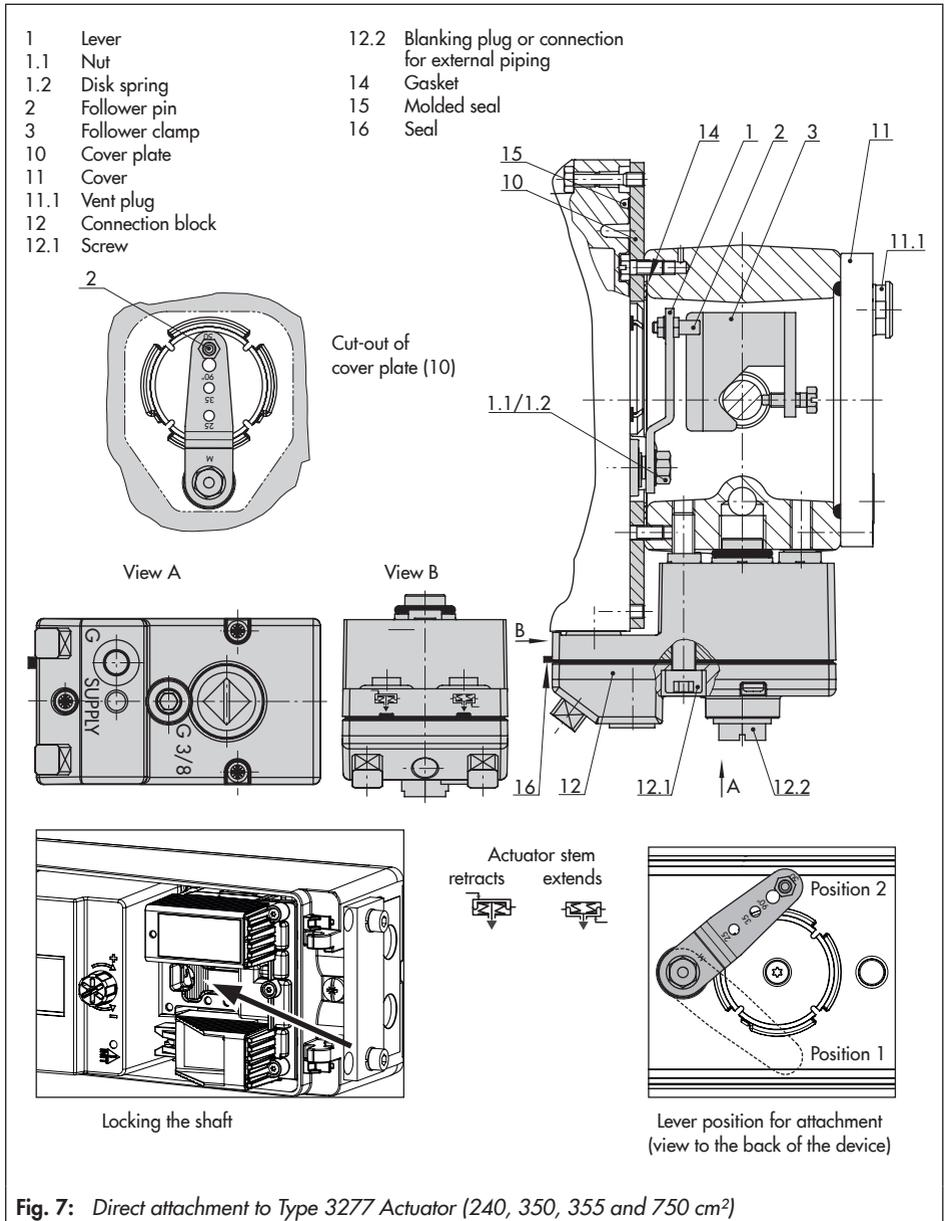

Fig. 7: Direct attachment to Type 3277 Actuator (240, 350, 355 and 750 cm²)
→ Actuators with 240 to 750 cm² (Fig. 7)
1. Place follower clamp (3) on the actuator stem, align it and screw tight so that the mounting screw is located in the groove of the actuator stem.
2. Mount cover plate (10) with narrow side of the cut-out pointing towards the signal pressure connection. Make sure that the glued-on flat gasket (14) points towards the actuator yoke.
3. Check the pin position of the follower pin (2) on M lever (1). Refer to travel tables for type of attachment. If necessary, change the pin position (see section 5.2).
4. Insert molded seal (15) into the groove of the positioner housing.
5. Turn the lever counterclockwise until the spring force can be felt (position 1). Continue to turn the lever further to position 2 (see Fig. 7, bottom right).
6. Press the shaft lock (see Fig. 7, bottom left) to hold the lever in position 2.
Remove the blanking plug (12.2, Fig. 7 on page 43) at the connection block and make a pneumatic connection to the spring chamber on the vented side.